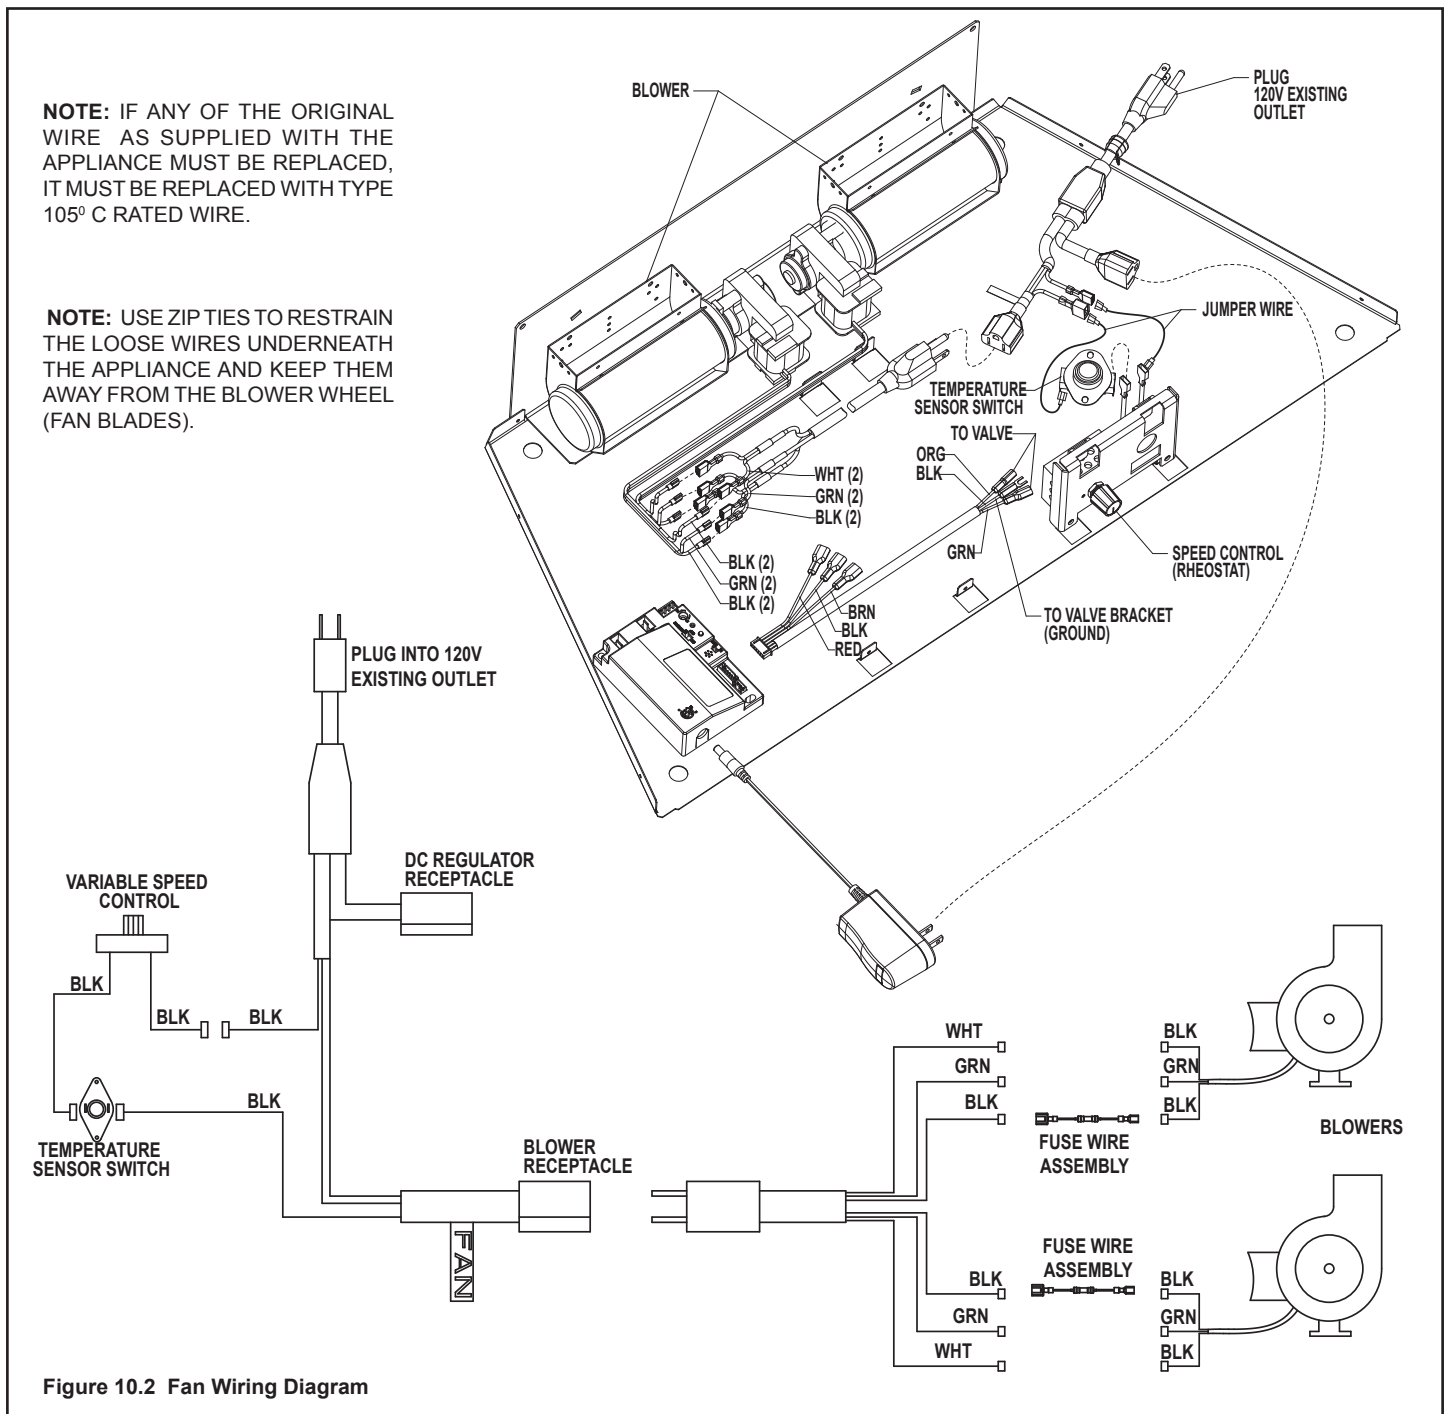

Figure 10.2 Fan Wiring Diagram
- This appliance comes standard with a 120 VAC cord assembly which has a female plug in to accommodate all control options and accessories. See Figure 10.2. This is required for proper operation of the appliance (IntelliFire™ Plus Ignition). An outlet box may be installed in a bottom back corner of the existing solid fuel masonry or factory built fireplace to plug in the cord assembly, or the supplied power cord may be routed out onto the hearth to a nearby outlet.
- To connect optional accessories, the supplied cord assembly should be used. See Figure 10.2 for a wiring diagram for a blower or remote.